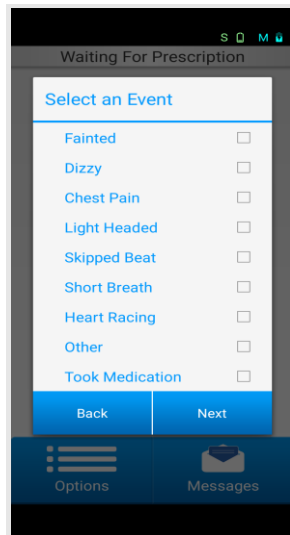

Figure 14-1 Select an Event
2. The *Select an Event* Screen will display (see Figure 14-1)